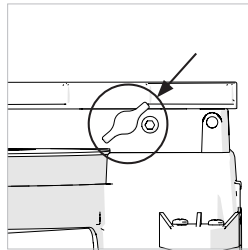

Fig. 14a
- Loosen the thumbscrew. (**Fig 14a**)
- Loosen the thumbscrew (2-3 full turns) (**Fig 14a**).